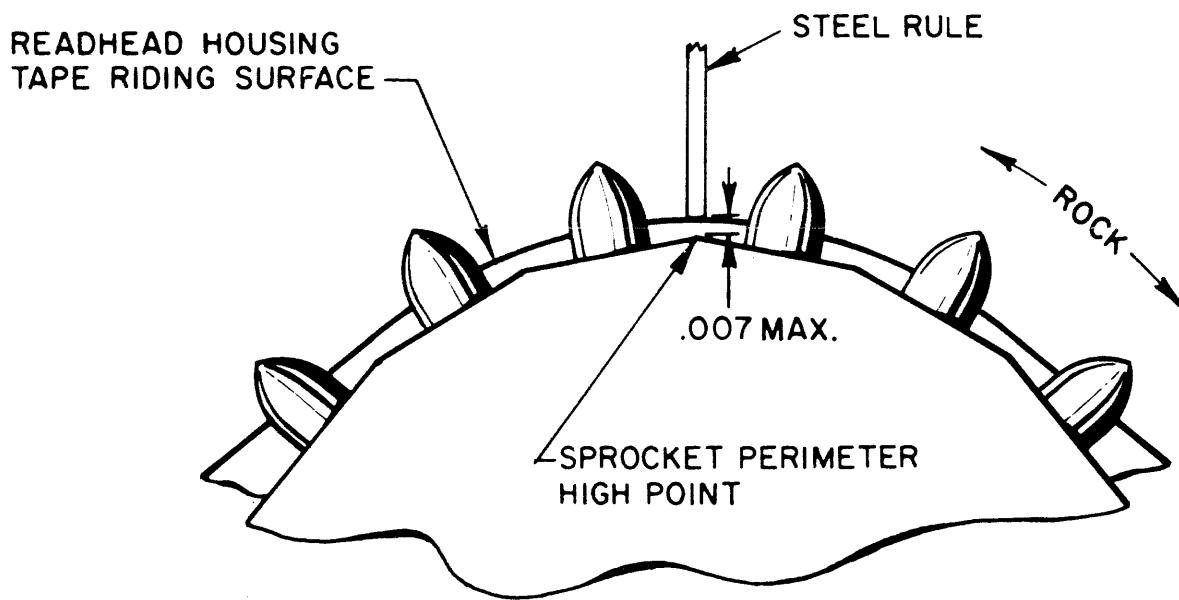

Figure 5-3. Sprocket Relation to the Tape Riding Surface.
- d. Remove the Upper Tape Guide. Check the clearance between the readhead housing tape riding surface and the sprocket perimeter high point by placing the end of a small steel rule on the surface and rock the sprocket in both directions. See Figures 5-3 and 5-4. Observe that the perimeter high point clears the steel rule by a few thousandths of an inch and no more than 0.007 max. If the sprocket is not positioned, as described perform step e.
- e. If the conditions of step d do not exist, loosen two screws (D) which hold the motor heat sink to the panel. Adjust the height of the motor so that the conditions in step d exist. Tighten screws (D). On some units it may also be necessary to loosen the four 8-32 socket head screws (B) at the rear of the panel which hold the Mechanism Assembly to the Front Panel and move the Mechanism Assembly to achieve the required setting. This should only be attempted if the adjustment cannot be made with the motor only. Tighten screws (B) if required. Check the conditions in step d again and perform step e as required.